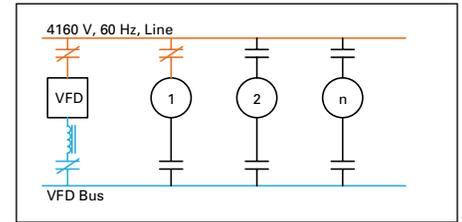

Figure 10.4-16. VFD Transfers Motor #1
- PLC opens motor select contactor (**Figure 10.4-16**)